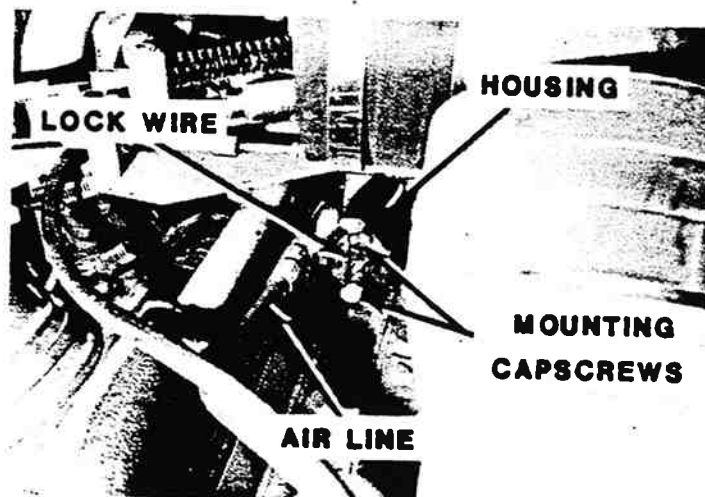

Figure 8-10.
1. Refer to figure 8-10. Disconnect the air line to the two-speed governor housing.